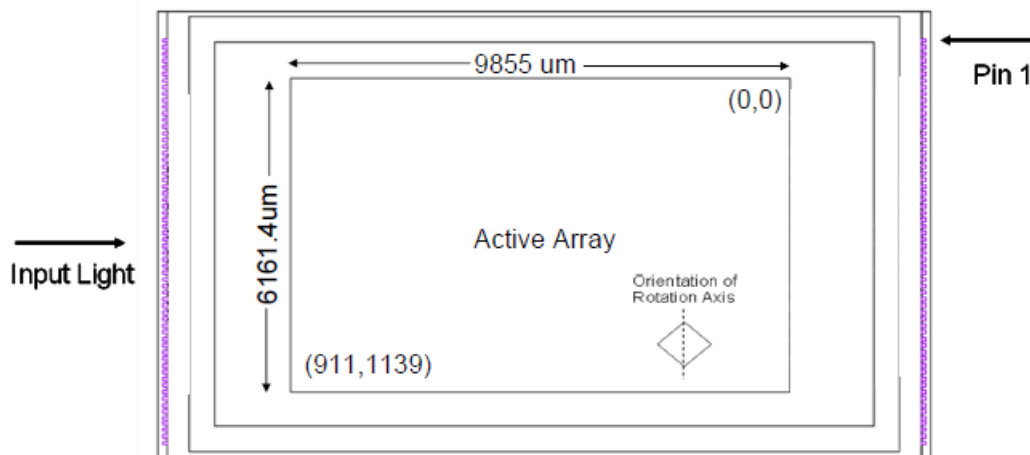

Figure 5. DLP4500NIR Micromirror Active Area
(1) See Micromirror Array, Pitch, and Hinge-Axis Orientation.
(2) See Micromirror Active Area in Figure 5.
(3) The mirrors that form the array border are hard-wired to tilt in the –12° (“Off”) direction once power is applied to the DMD (see Micromirror Array, Pitch, and Hinge-Axis Orientation and Micromirror Landed Positions and Light Paths).